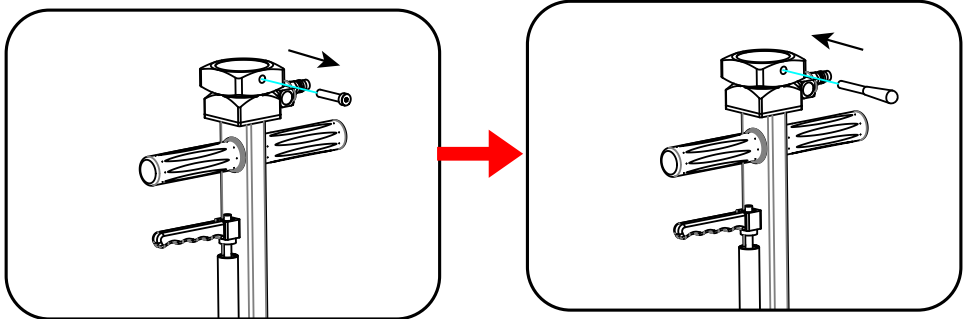

Fig. 04
- To install the control lever, loosen the screw and rotate the control lever into the hole. (see fig.04)